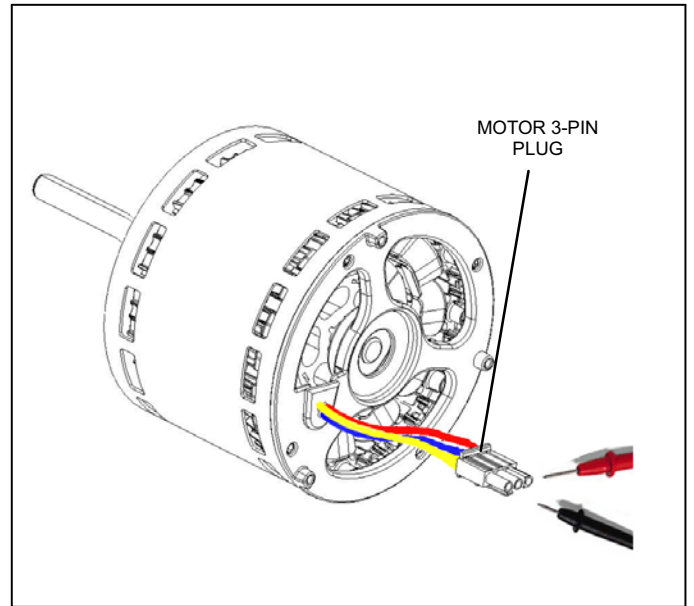

Figure 19. Motor Test (Emerson)
3. Check resistance between each of the three-phase terminals in the motor harness as illustrated in figure 19. Resistance between any two contacts should be equal. If resistance between any two contacts are not equal, or if any resistance shows open or short-circuited, replace the motor.